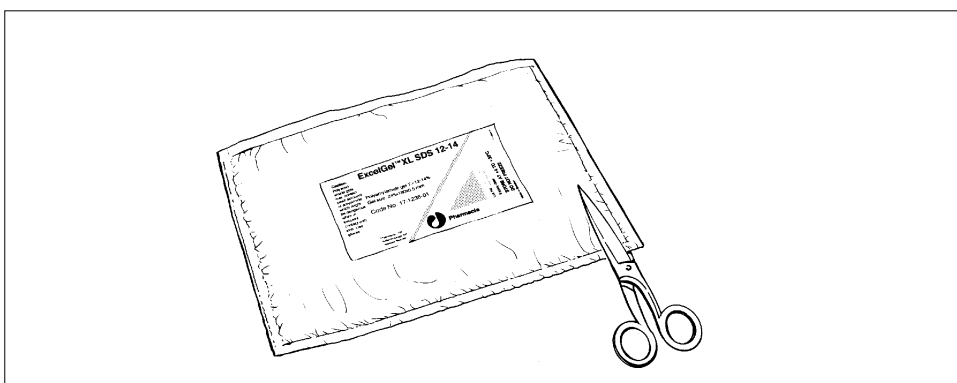

Fig. 23.
- Remove the ExcelGel from its foil package by cutting around the edges (Fig. 23).